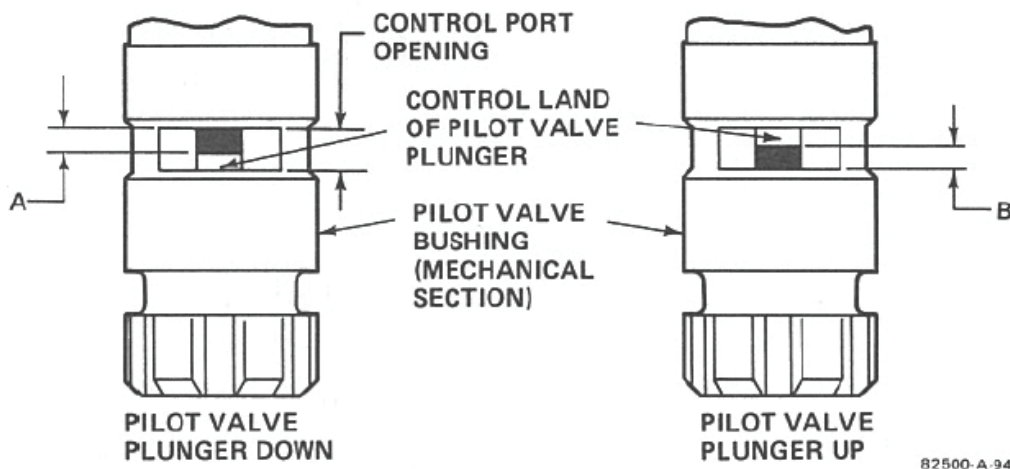

Figure 3-23. Centering Pilot Valve Plunger
Check the centering of the pilot valve plunger by removing plug (77) and, looking through the plug hole observe the pilot valve plunger through the control port as shown in Figure 3-23.
Push on the flyweight toes to lower the pilot valve plunger (PVP) as far as possible. Check distance "A". Pivot flyweights out as far as possible and check distance "B". Distance "A" must equal distance "B" when flyweights have been moved from their extreme inward to their extreme outward position. See Figure 3-23.